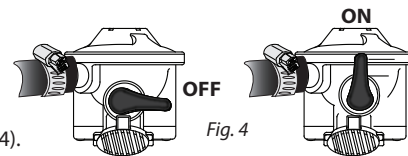

Fig. 4
4. Turn the lever to **ON** position after ensuring that the regulator is connected firmly onto the cylinder valve (See Fig. 4).